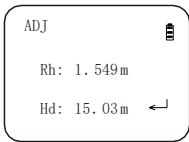

Fig 28
- (5) Move instrument to Point 2 and set it properly, measure Staff B. After data showed up as Figure 28, press SET button to the next step (Figure 29).